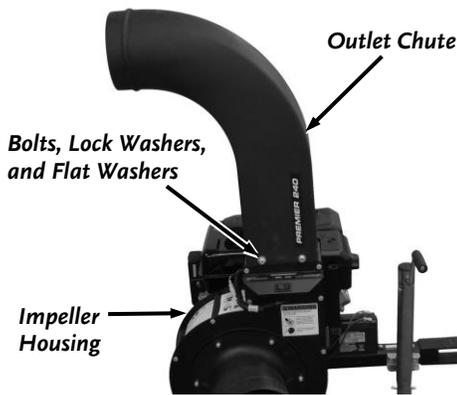

Figure 12
1. Place the Outlet Chute on top of the Impeller Housing (make sure to orient as shown) and secure with four Bolts, Lock Washers, and Flat Washers using a 1/2" Wrench (**Figure 12**).